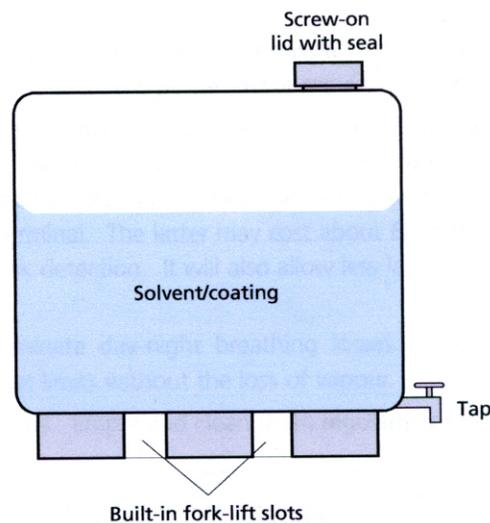

Figure 1. Intermediate Bulk Container (IBC)
- Where possible, encourage suppliers to deliver solvents, and in particular coatings, in IBCs rather than drums. By the nature of their design, less will be lost through both evaporation and container residues. IBCs are also easier and safer to move by fork-lift (see Fig 1).